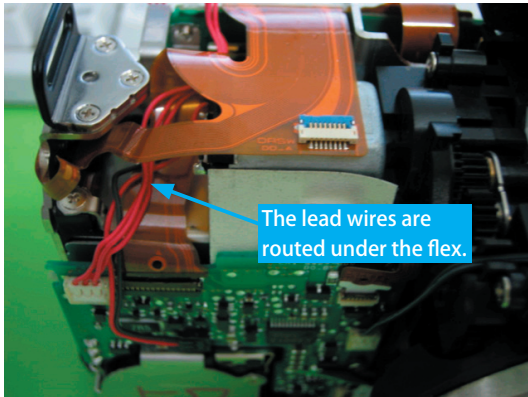

Fig. 085
(4) Attach the lead wire from the Main PCB Ass'y to the MD Ass'y and make sure that the direction is correct. Route the lead wires as shown in Fig. 085, 086 and be careful that they do not go outside of the PCB.